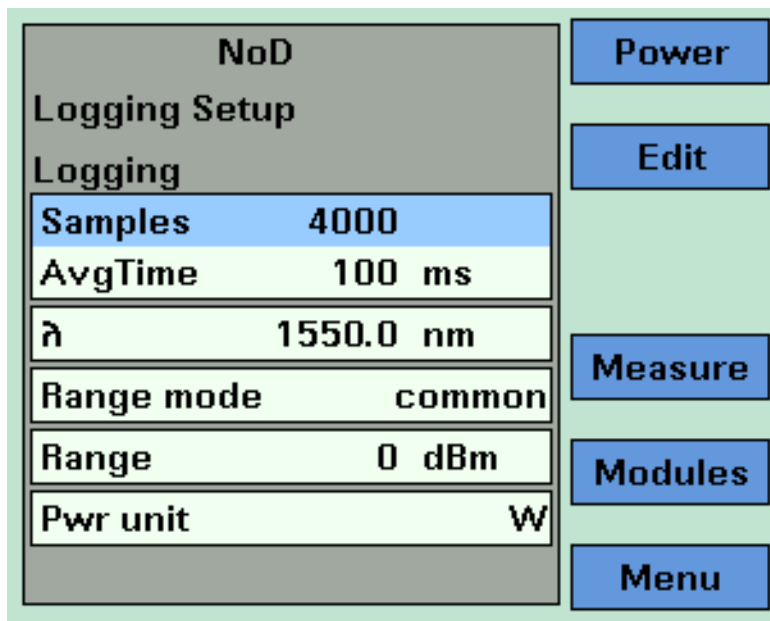
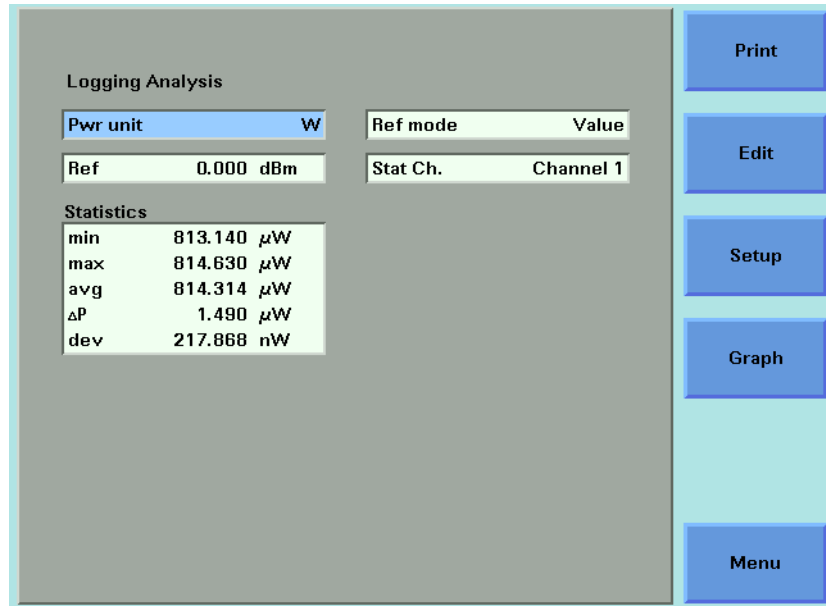

Figure 163 The Keysight 8163B Logging Parameter Setup Screen
Figure 166 The 8164A/B Logging Analysis Screen
If you are using the 8163A/B Lightwave Multimeter, press [Parameter] to access the Logging Parameter Setup Screen, as shown in Figure 163 on page -265. To return to the Logging Modules Setup Screen, press [Modules].
- 2 Press [Analysis]. The Logging Analysis screen appears as shown in Figure 166 on page -270 for the 8164A/B and Figure 163 for the Keysight 8163B.